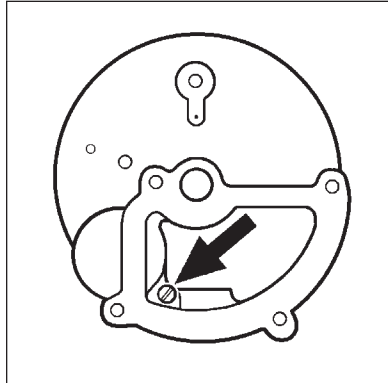

Figure 2
2. Attach ground wire using the green ground screw located inside the electrical box (Figure 2). Connect the power cable to the brown and blue pump wires and the control circuit (if required) to the purple wire. Secure with wire nuts.